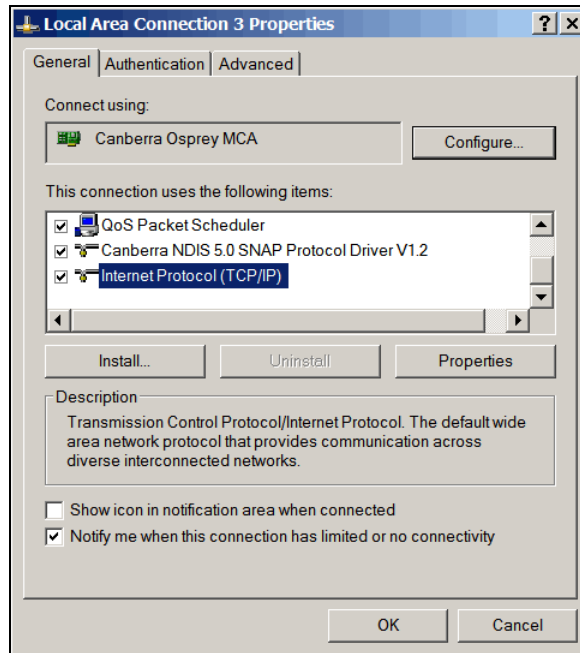

Figure 38 Set up the USB Connection
5. Select **Internet Protocol (TCP/IP)** and then click on **Properties**. The Internet Protocol Properties page (Figure 38) opens. This sets up the client side (e.g., your PC's end) of the USB connection to some otherwise unused address.